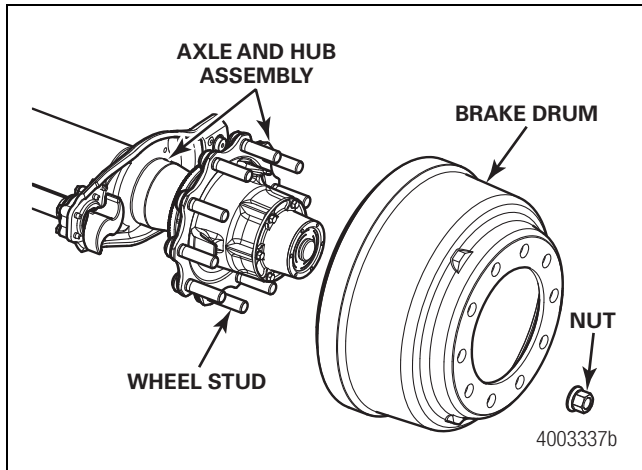

Figure 11.56
1. Remove the brake drum, slack adjuster and brake shoes. Figure 11.56.